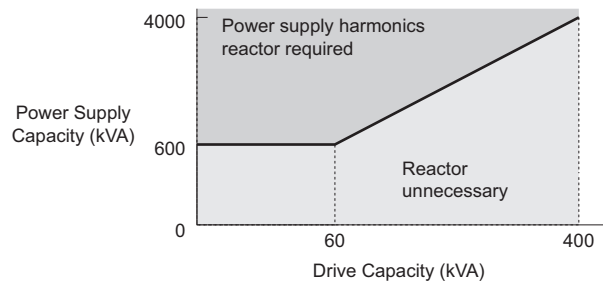

Figure i.1 Installing a Reactor
- when the power supply capacity (kVA) is 10 times or more greater than the drive capacity according to Figure i.1.